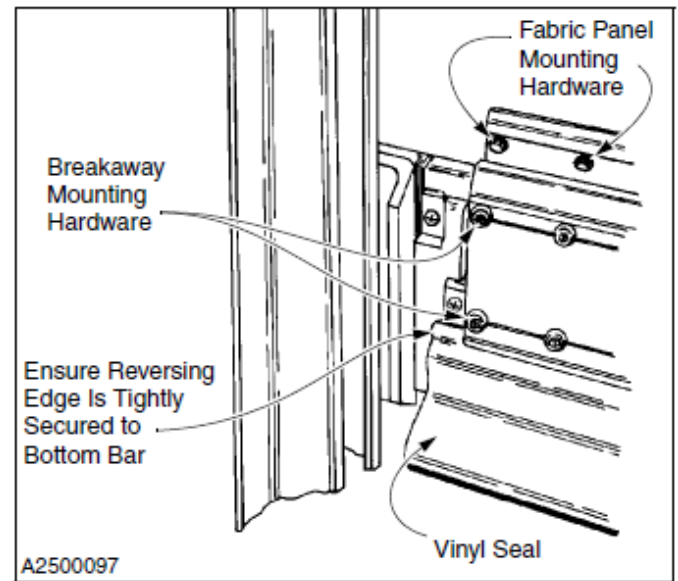

Figure 24
2. Check the hardware used to secure the breakaway assembly to the bottom bar. Tighten as required. (See Figure 24)